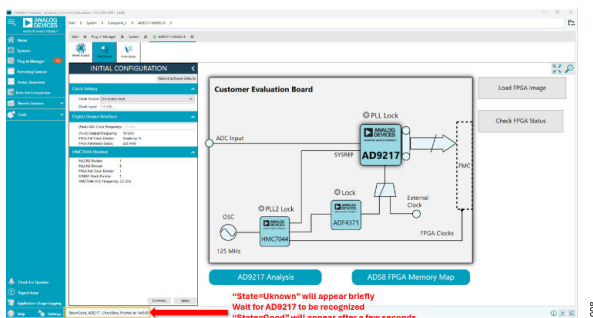

Figure 8. On-Board Clocking Board View
9. **State=Unknown** initially appears in the lower left corner; however, wait until this status changes to **State=Good** (see Figure 8).
10. After **State=Good** appears in the lower left (see Figure 8), turn on the signal generator for the input signal.